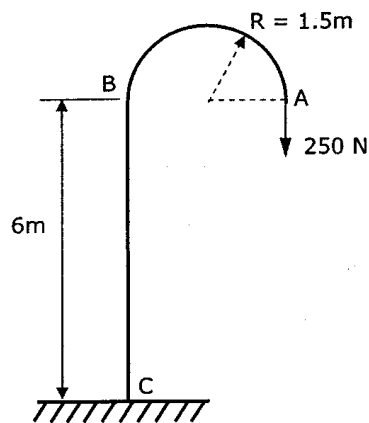

Fig. Q4
4. The slender steel support structure, ABC, shown in Fig. Q4, is rigidly supported in the ground and carries a vertical load of 250 N at its tip, A. The upright member, 6 m in height, supports a cantilevered semi-circular overhang of radius 1.5 m. All members in the structure are of hollow circular cross-section of outer diameter 100 mm and wall thickness 3 mm.